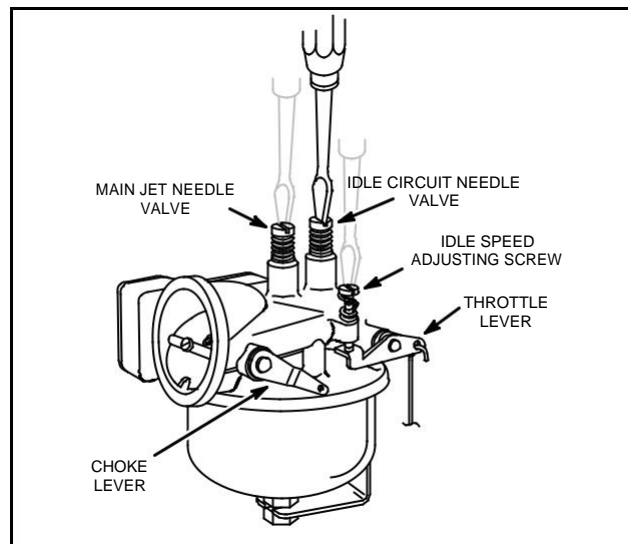

Fig. 293 - CARBURETOR ADJUSTMENT
1. Turn idle and main jet mixture needle clockwise until lightly contacting the seat. Fig. 293.
2. Turn main jet needle valve to midpoint between rich and lean so engine runs smoothly, Fig. 293.